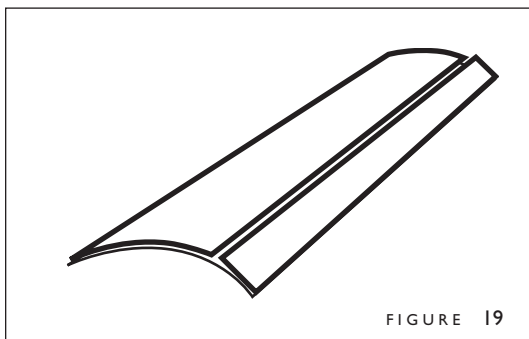

FIGURE 19
5. Tamp your document cover and pages on the front flat surface of the housing so that they are straight. Place the document on top of the strip and slide the document all the way to the right (figure 19).
PS stands for "Pressure-Sensitive." These strips have a full pressure-sensitive adhesive on one side of the strip, and a thermal plastic adhesive on the other side. The entire spine of the cover is completely bound to the book block. Final binding is done without heat so you can use cover materials or printing methods that are heat-sensitive without worry. These strips have a narrow and a wide band of release paper on the back of the strip (figure 19). The final results look like traditional softcover binding.